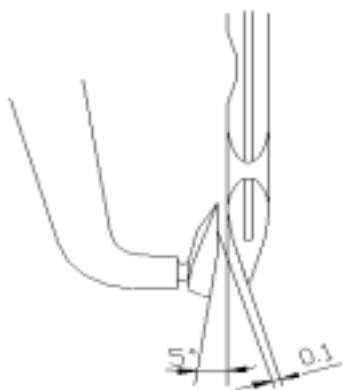
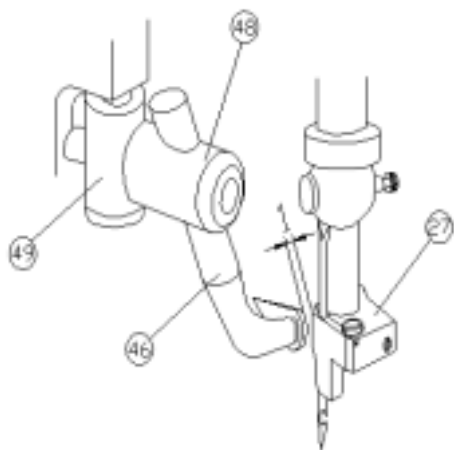

FIG. 21
FIG. 22
(46), positioning its tip about 16.3mm from the level of the throat plate. The tip of the hook should be inclined at an angle of about 5 ° to the needle in the order to avoid any possibility of the needle breaking during its return stroke. FIG. 21. This is done by rotating the hook in its holder (48). FIG. 22. The upper hook returns to its starting position at the second cycle. Remaining in the second cycle, turn the hand wheel so as to bring the back of the fabric clip. This is done by moving the hook holder (48) forward and backward in its support (49). FIG. 22.